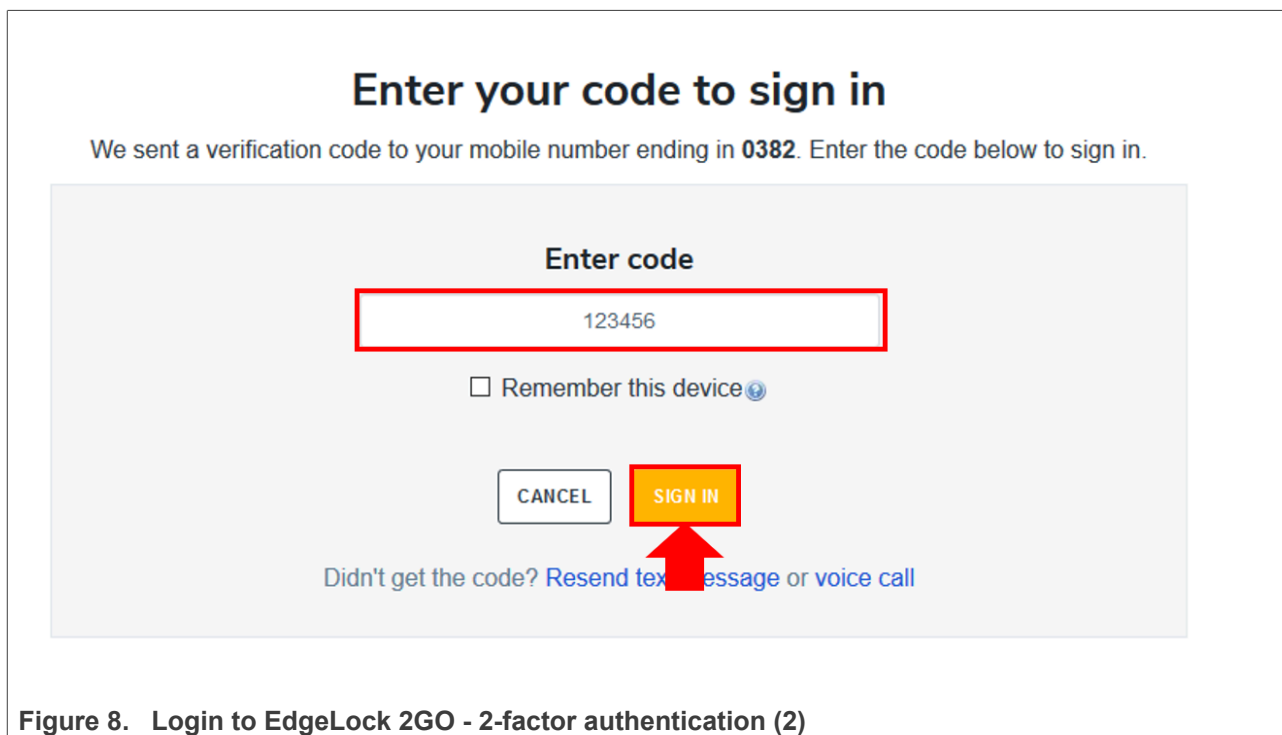

Figure 8. Login to EdgeLock 2GO - 2-factor authentication (2)
3. Insert the code you just received and then click on the *Sign In* button as shown in Figure 8 to login to EdgeLock 2GO: